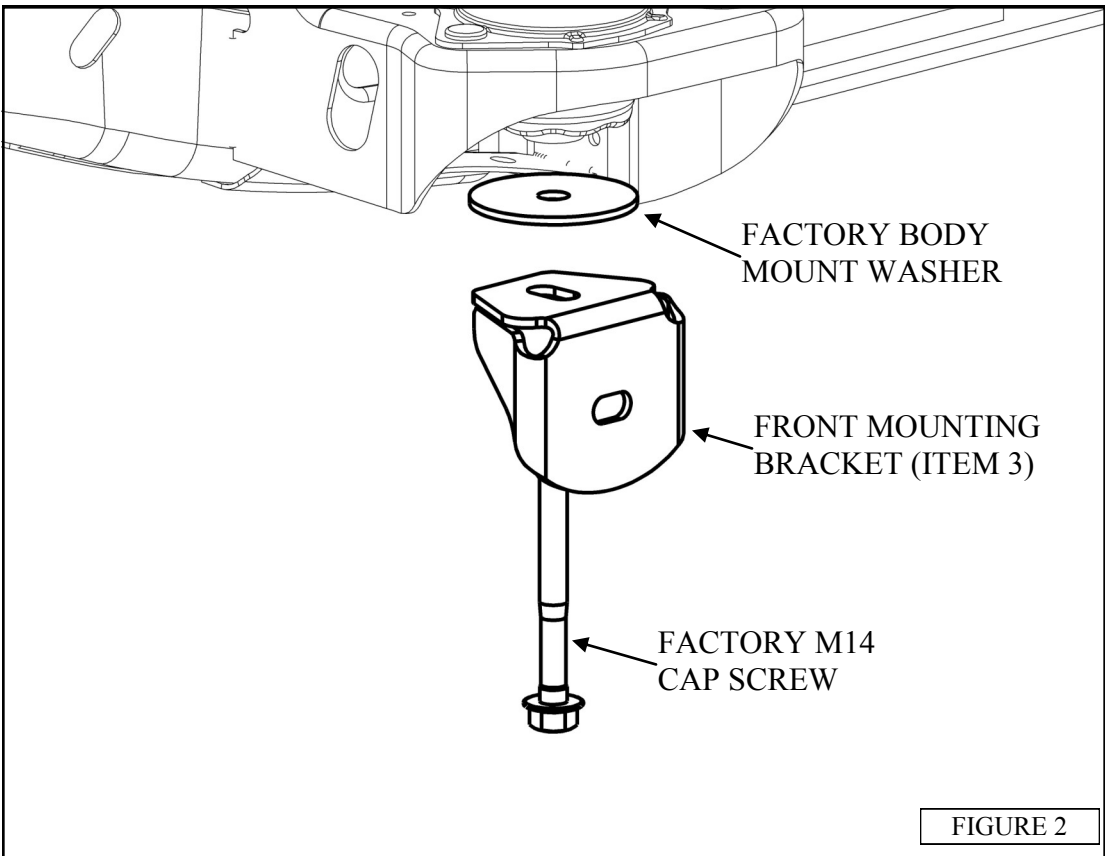

FIGURE 2
2. Start installation at the driver side. Locate the front cab mount. Remove the M14 body mount bolt from the cab mount. Install the front mounting bracket with the factory washer on the top side of the bracket. Do not fully tighten at this time. FIGURE 2